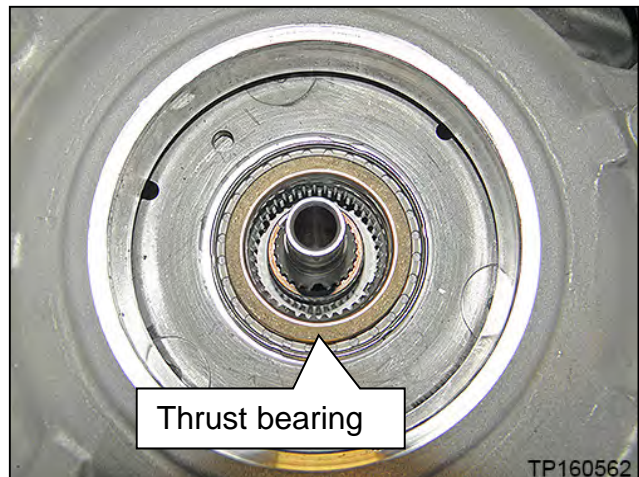

Figure 85
62. Remove the thrust bearing from the planetary carrier plate (Figure 85).